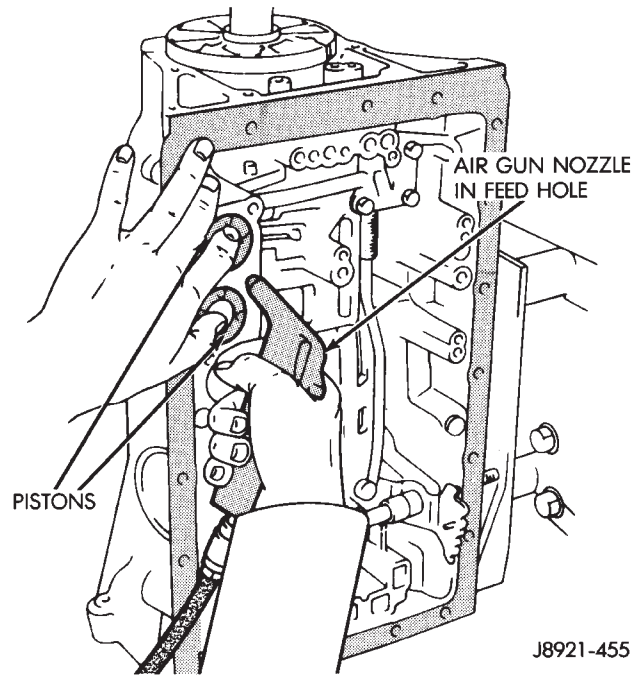

Fig. 27 Accumulator Piston Removal
(2) Remove accumulator pistons with compressed air (Fig. 27). Apply air through small feed hole next to each piston bore. Catch each piston in a shop towel as it exits bore.